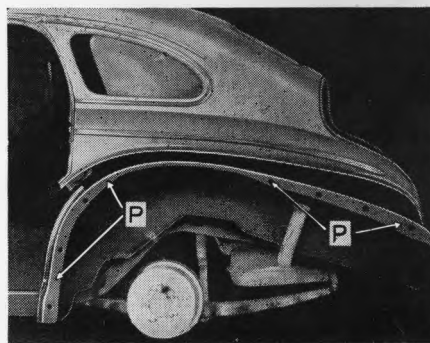

FIG. 9
1. Place the new wheelhouse in the body opening. Fig. 9, and
14. Apply deadener coating No. 5267272, with a brush, to the complete outer surface of the wheelhouse, working it well into all seams and overlapping surfaces. Make sure the deadener coating is also applied to the outer edge of the wheelhouse, "P" Fig. 9, taking care that it does not contact the threaded part of the anchor nut. Coat the